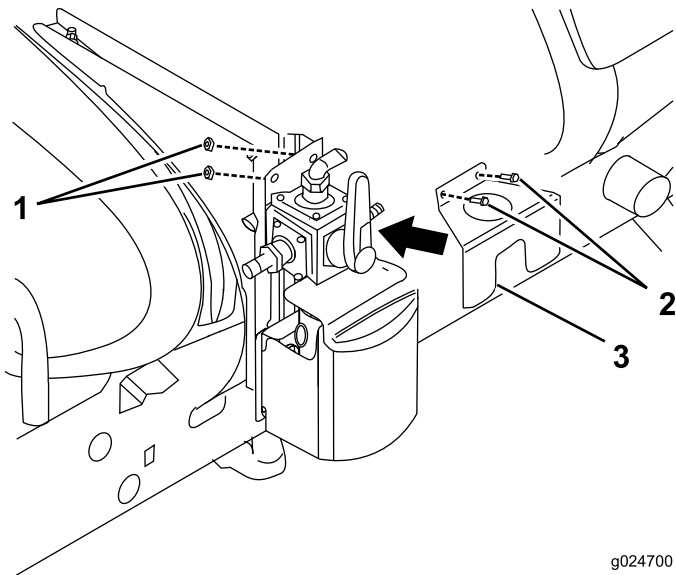

Figure 27
4. Install the faceplate bracket onto the valve-mount assembly (Figure 27) with 2 flange bolts (5/16 x 1 inch) and 2 flange locknuts (5/16 inch).